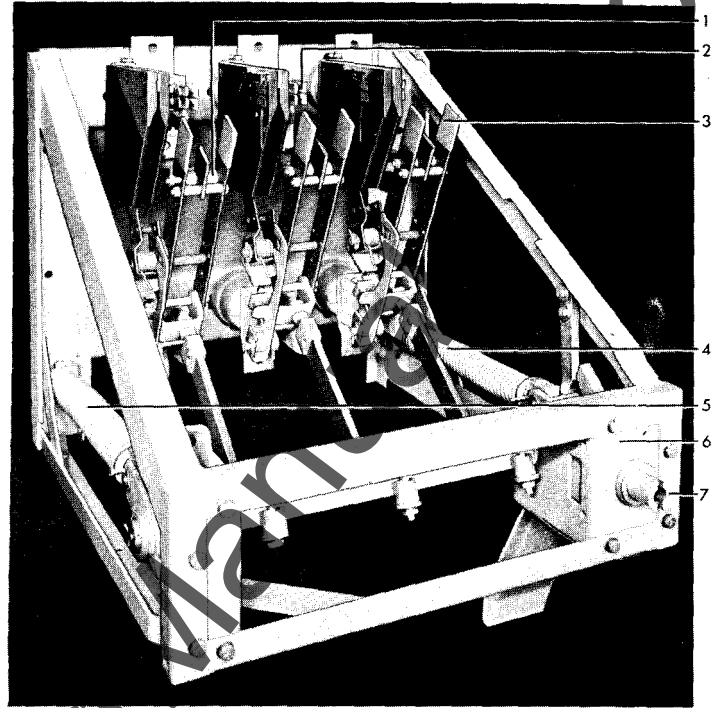

Fig. 1 SE-100S Switch Partially Open
Closing the switch is accomplished by inserting the operating handle (1) Fig. 3 into the handle socket provided in the operating hub (7) Fig. 1 in the enclosure and rotating in a counterclockwise direction as far as possible (approximately 180°).